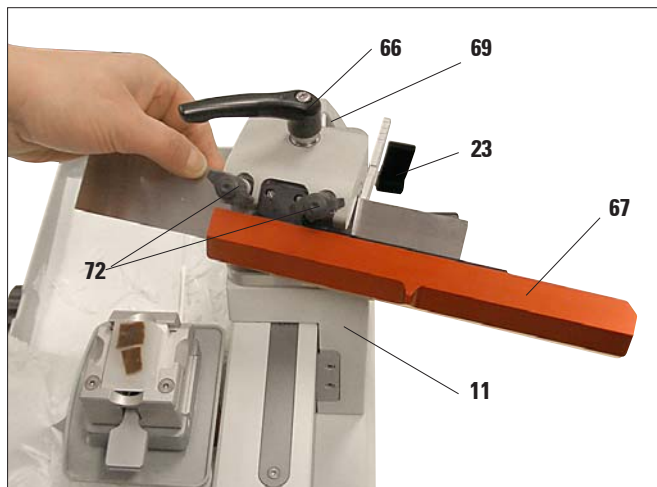

Fig. 33
- Lock the knife sledge (11) in place using the locking knob (23).
- Please make sure that the knife holder is firmly clamped using the clamping lever (66) and that the knurled head screw (69) is tightened.
- Push the knife guard (67) to the right and loosen the clamping screws (72) sufficiently to allow the knife to be inserted.
- Carefully insert the knife into the knife holder from the left and hold in place (Fig. 33).
- To clamp turn the knife clamping screws (72) alternately clockwise until both screwed tightly and cover the knife over with the knife guard.